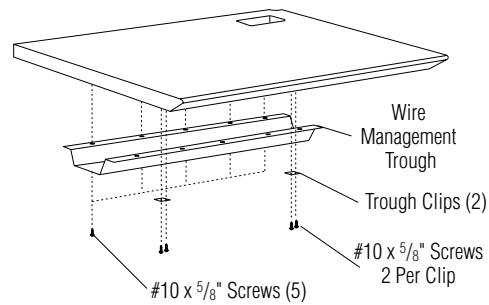

Figure 4
12. Position the mounting holes of the wire management trough over the pre-drilled holes in the worksurface. Secure the trough to the worksurface with #10 x 5/8" screws. Do not over tighten screws. From the underside of worksurface, position trough clips over the pre-drilled holes in the worksurface and secure with two #10 x 5/8" screws per clip (Figure 4).